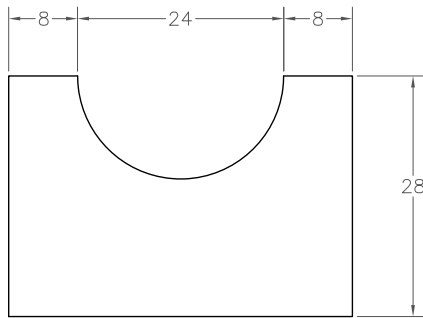

Figure 26-120 The region to be extruded
13. Draw the profile shown in Figure 26-120 at any place in the drawing area and then convert it into a region.